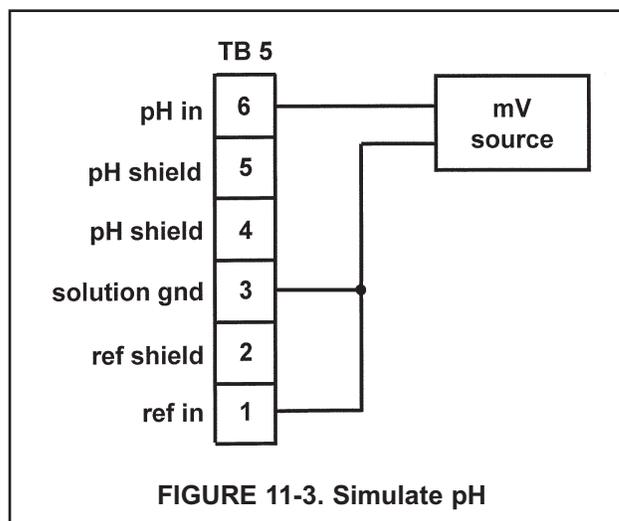

FIGURE 11-3. Simulate pH
4. If a standard millivolt source is available, disconnect the jumper wire between the pH IN and the REFERENCE IN terminals and connect the voltage source as shown in Figure 11-3.